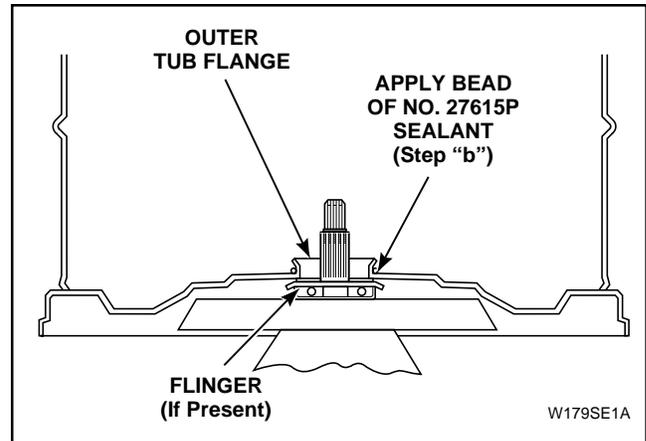

Figure 38
- Apply a small amount of No. 27615P Sealant (3M800) around outer surface of tub flange, *Figure 38*.
**IMPORTANT:** DO NOT allow sealant to come in contact with flinger, (if present) *Figure 38*, since this could prevent flinger from keeping moisture out of upper bearing.